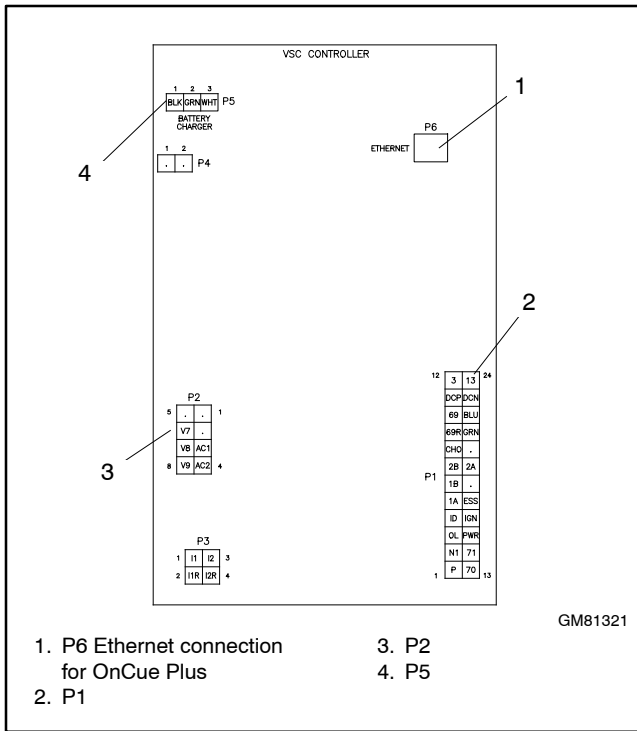

Figure 31 Controller Connections
8. Note the connections on the back of the controller, and then disconnect all harnesses and leads from the controller. See Figure 31 or the wiring diagram in the generator installation manual.